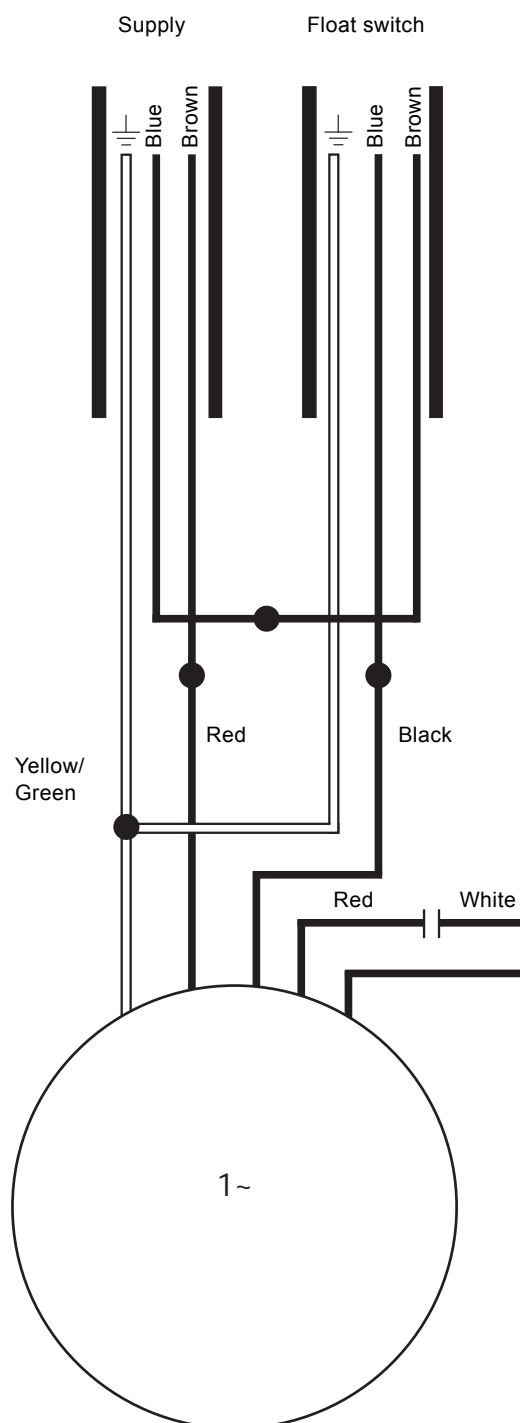

Fig. 5 Wiring diagram
7. Fit the cable relief (pos. 250a) and pull the cable entry into position in the motor sleeve. The cable entry must now be fixed in the retainer in the motor sleeve. It must not be possible to pull the cable any longer. The cable entry is fitted correctly when its collar is free of the motor sleeve.
8. Strip the cable and fit the conductors with new wire connectors, see fig. 5.